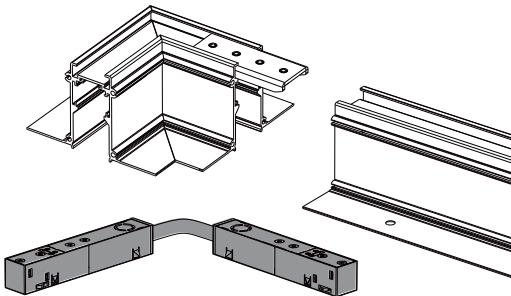

Figure 21
5. Right angle continuous row mount can be done by connecting the two tracks with LAA-REC-LTRKIT01. Tighten the screws on LAA-REC-CM01 with hex key provided. Also, insert joint connector LAA-U-CE02 (Figure 21). Turn the lock from OFF to ON position with flat head screw driver.